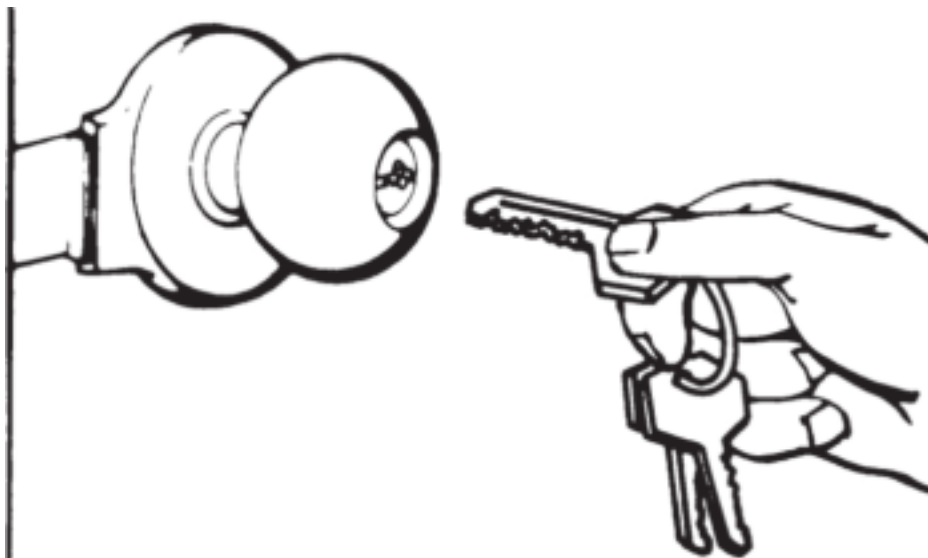

**Figure 13.2** Are you using the right key?
- Are you using the right key (Fig. 13.2)?